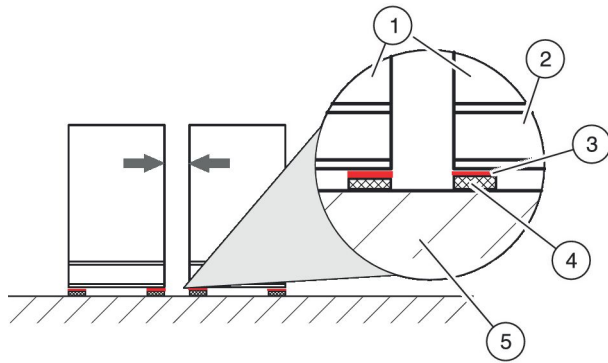

Fig. 11: Unit arrangement with anti vibration elements
Slide plates (Fig. 11 /3) considerably simplify the process of positioning the AHU casing units (Fig. 11 /1) on a surface with a high friction coefficient, such as rubber or elastomer sheets (Fig. 11 /4).
1. ▶ Position the slide plates (Fig. 11 /3, by others) under the base frames (Fig. 11 /2) of the AHU casing units (Fig. 11 /1).